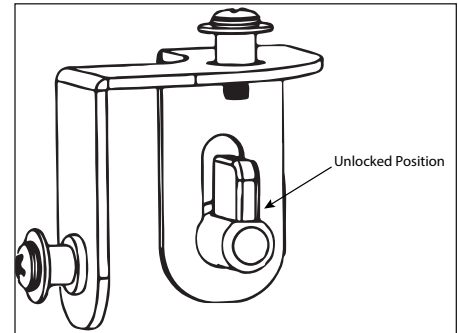

Figure 8. Security Paddles (Front Corners Only)
2. Turn the two security paddles to align with the slot of brackets at each corner (Figure 8).
When unlocking or locking the Front Glass Security Paddles (Figure 8), make sure another person is holding the Front Glass in place to prevent tipping that may result in personal injury or damage to glass.